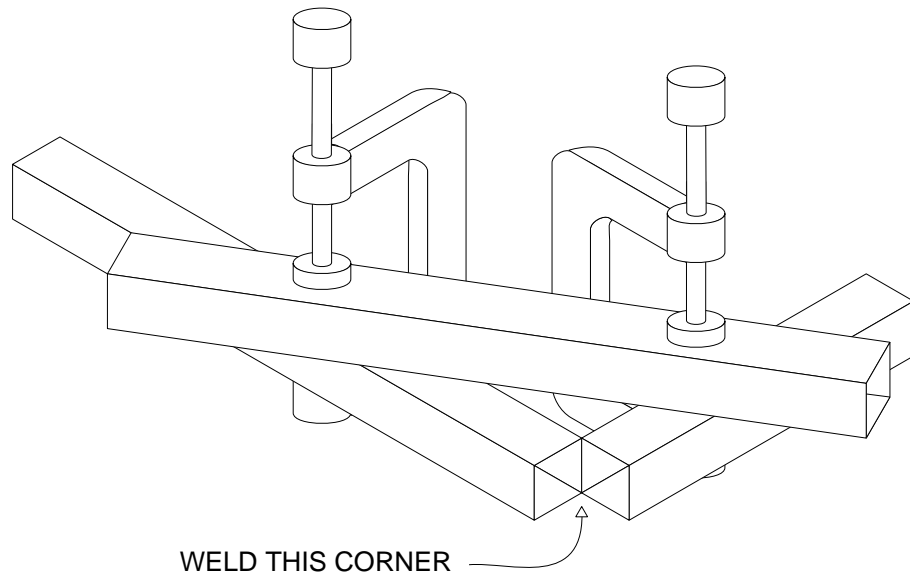

Figure 3: welding axle supports.
- 3) Then take two axle support strut pieces and weld them together to make an L shape. When you do this you need to weld only two edges together to leave a space for the axle as Figure 3 shows. You can then weld this L piece to